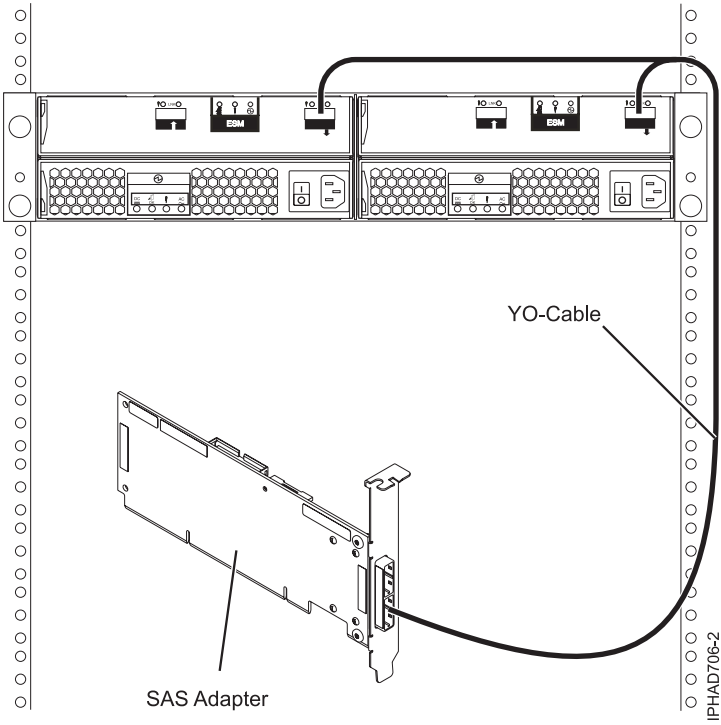
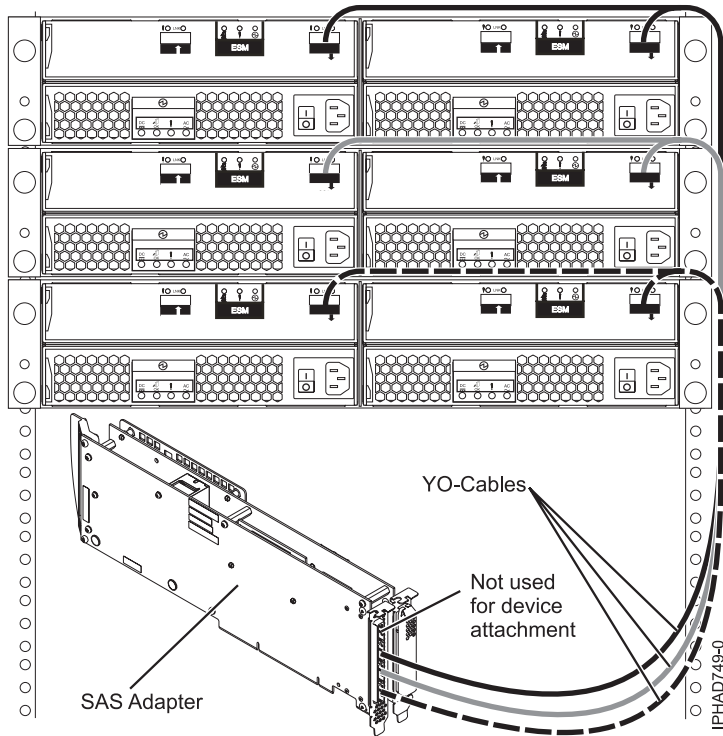
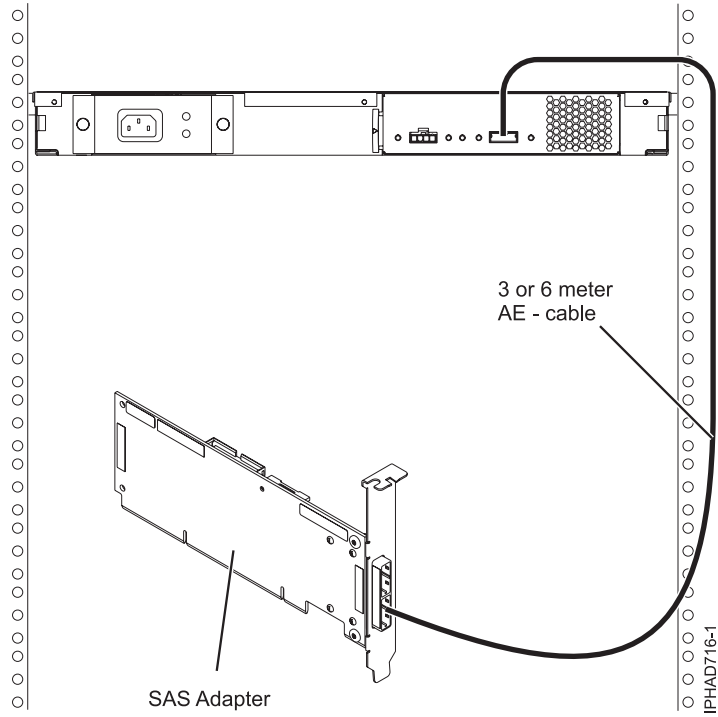

Figure 106. SAS adapter to a disk expansion drawer
Figure 109. Tri-port SAS adapter to disk expansion drawers
Figure 110. SAS adapter to a media expansion drawer
Figure 106 on page 113, Figure 107 on page 113, Figure 108 on page 114, and Figure 109 on page 115 illustrate connecting a SAS adapter to one, two, three, or four disk expansion drawers. It is also possible to connect three disk expansion drawers by omitting one of the cascaded drawers shown in Figure 108 on page 114. Disk expansion drawers can be cascaded only one level deep.
Figure 110 on page 116 illustrates connecting a SAS adapter to a media expansion drawer. It is also possible to connect a second media expansion drawer to the second port of the SAS adapter.
- The second connector on the adapter can be used to attach a disk expansion or media expansion drawer as shown in Figure 106 on page 113 or Figure 110 on page 116.
- The remaining two connectors on the adapter can be used to attach disk expansion drawers as shown in Figure 109 on page 115.
**Two SAS adapters to disk expansion drawer multi-initiator high availability (HA) RAID configuration**